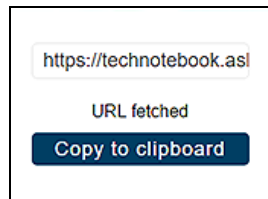

Figure 8-9
2. Select **Copy to Clipboard** (Figure 8-9) from the pop-up window.